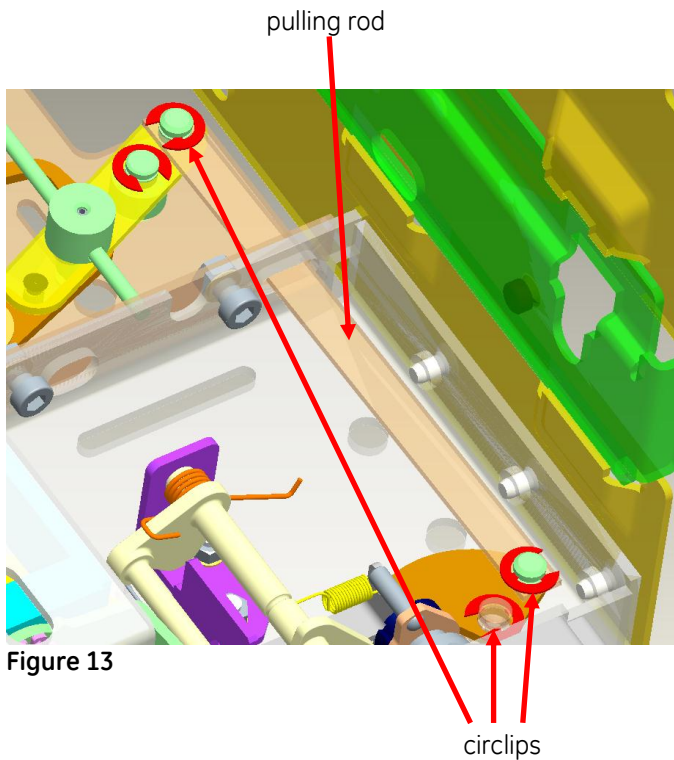

Figure 13
13. Using pulling rod, connect lever from the base plate with the lever from the rear lock bracket. Secure pulling rod and front lever with circlips (as shown on Fig. 13).